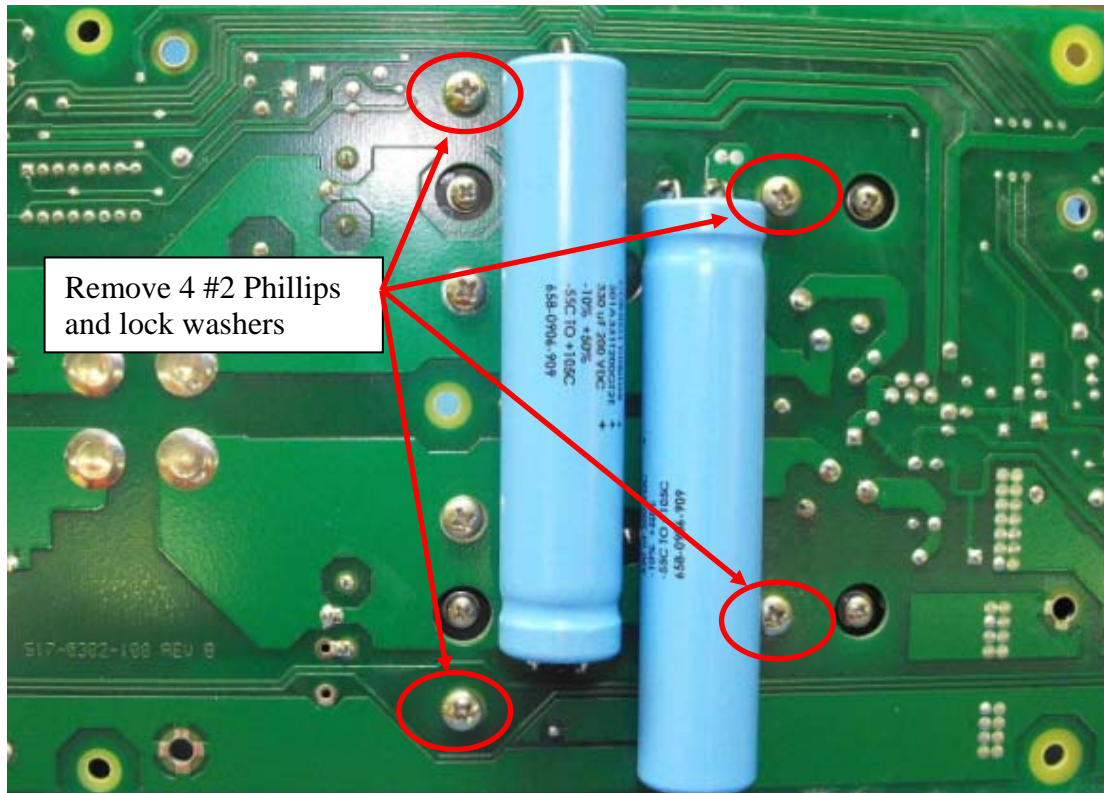

Figure 2. Remove two blue Capacitors and four Phillips screws with washers.
**Step 3** –On the back of the modulator board, remove the four screws and lock washers using a #2 Phillips screwdriver. See figure 2.